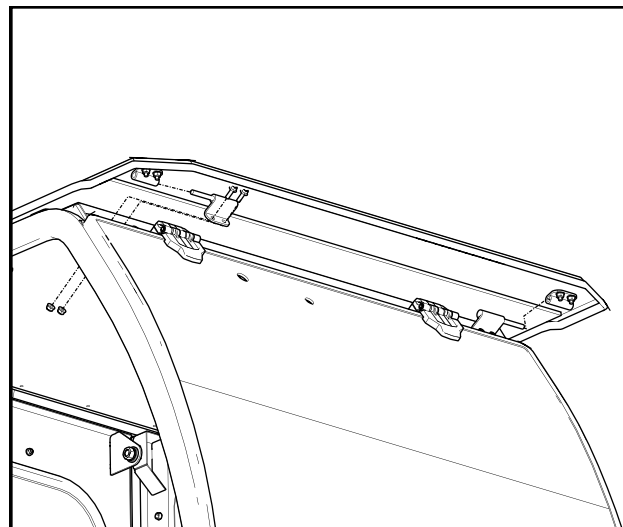

Fig. 14.1 (Roof Installation)
**14.1** With assistance, lift the roof onto the side frames. See Figure 14.1. *Take care not to engage the quick release latches with the side frame latch pins.*